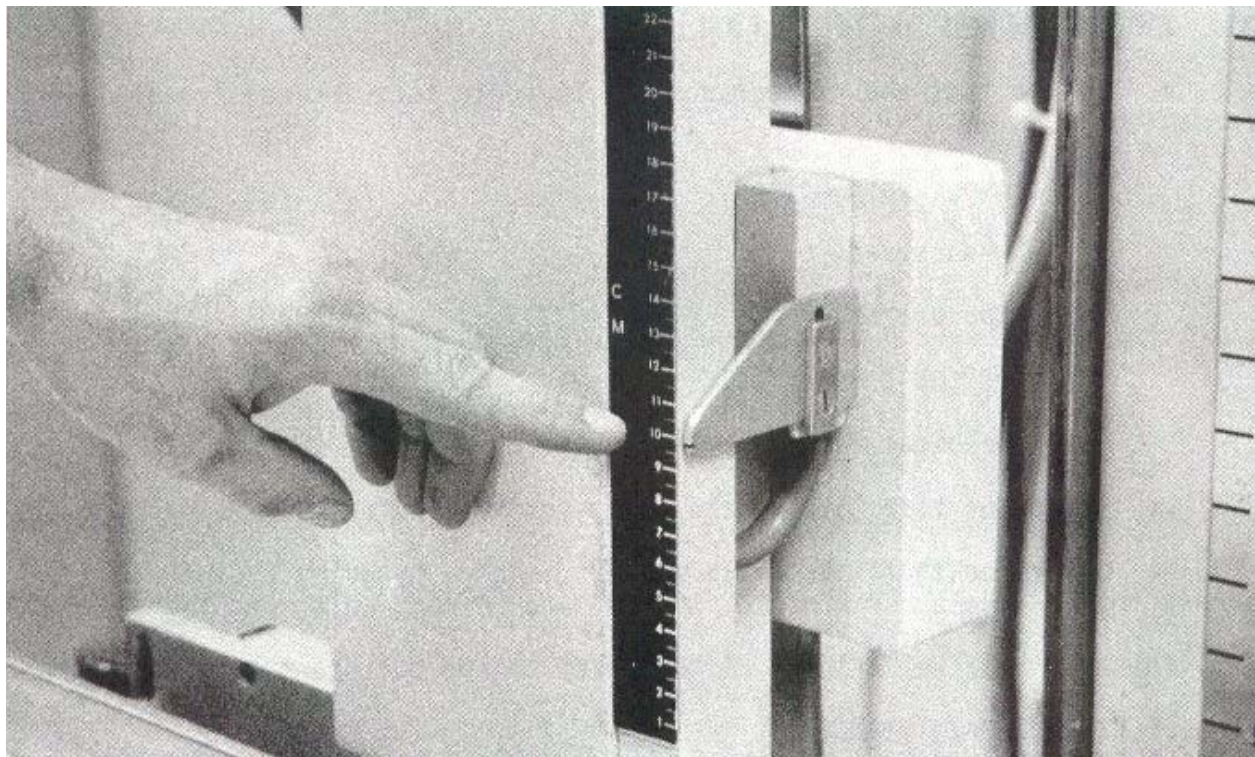

Figure 6-15. Selecting cut level moving up to 10.5 cm.
- (1) Tomographic motion.
- (2) Sweep speed.
- (3) Exposure angle.
- d. Select the cut level of 10.5 cm (see figure 6-15).